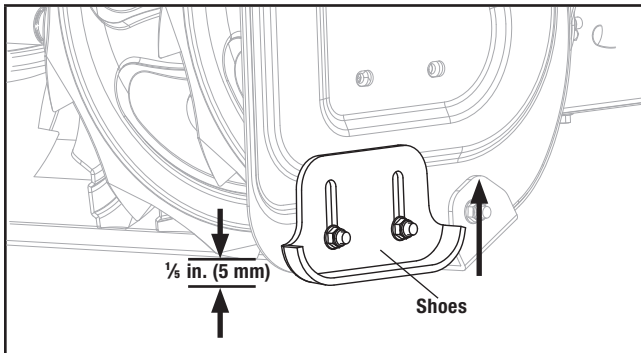

Figure 15A
- On flat ground, e.g. asphalt, the shoes should be adjusted to about $\frac{1}{8}$ in. (5 mm) (the distance from the auger to the ground) (Fig. 15A).